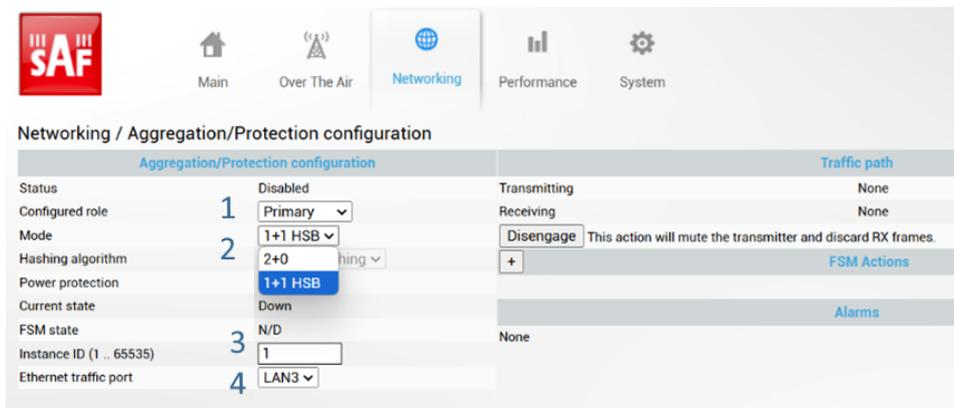

Figure 6-15 Configuring the unit role in the link
STEP 2: Networking/Aggregation/Protection configuration, see *Figure 6-15*